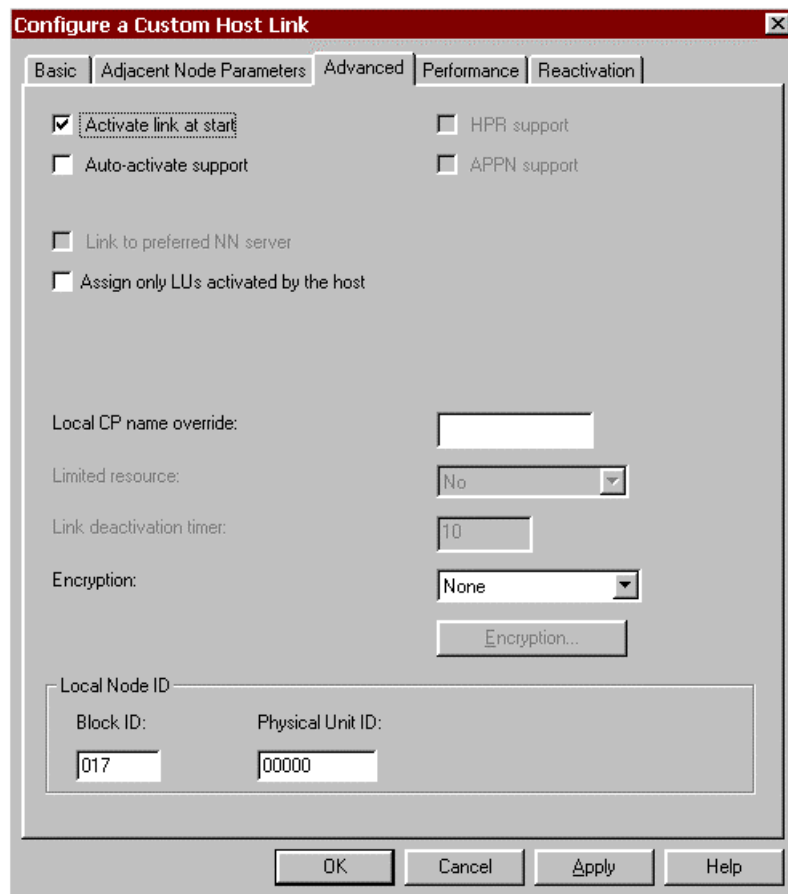

Figure 11-16. Configure a Custom Host Link - Advanced
5. Click the **Advanced** tab (Figure 11-16):